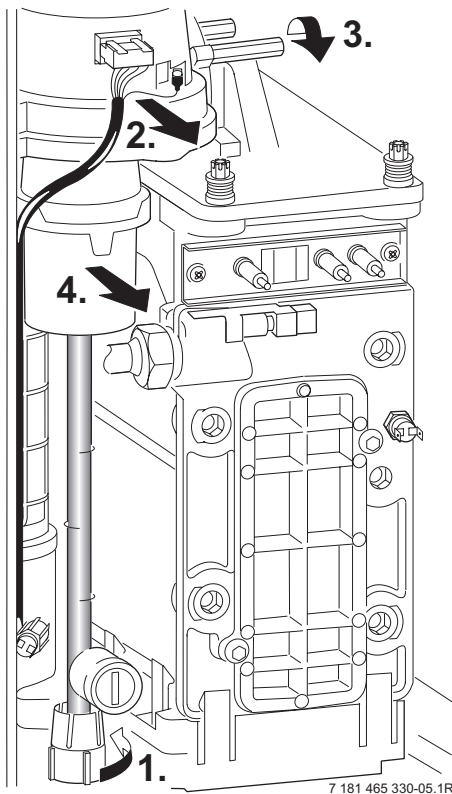

Fig. 59
- ▶ Undo lower pipe union on gas pipe (1.). Refer to fig. 59.
- ▶ Undo the union, within the inner casing, securing the valve to the gas/air tube. Refer to fig. 59.